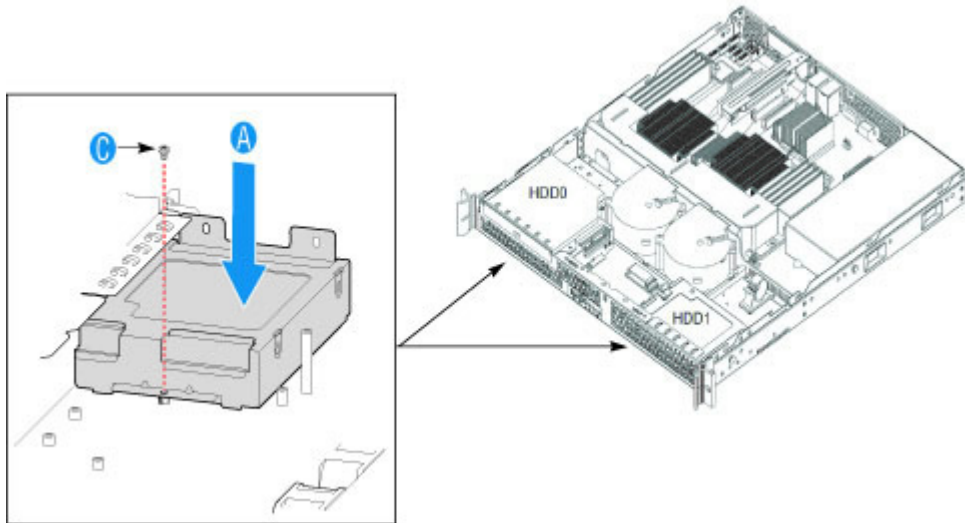

Figure 31. Installing Drive Assembly into the Server System
5. Set the drive assembly into place in the chassis. See letter "A" in the following figure (Figure 31).